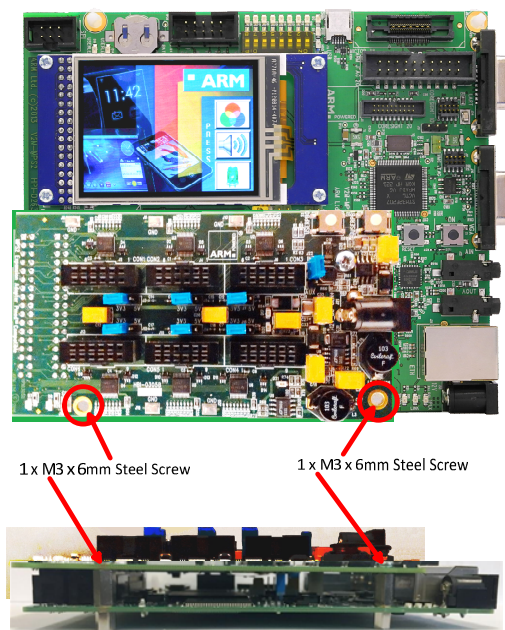

Figure 3-4 Placing Adapter board
4. Place the adapter board on the expansion port of MPS2+ motherboard, and fix it with two steel screws, M3 x 6mm (see Figure 3-4).